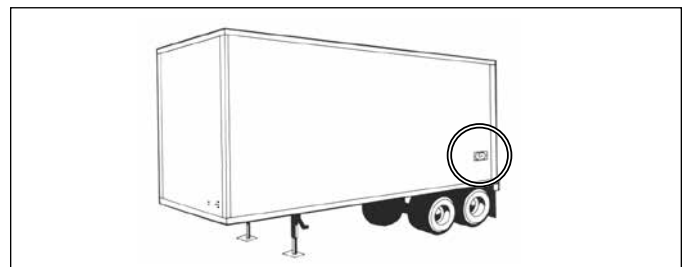
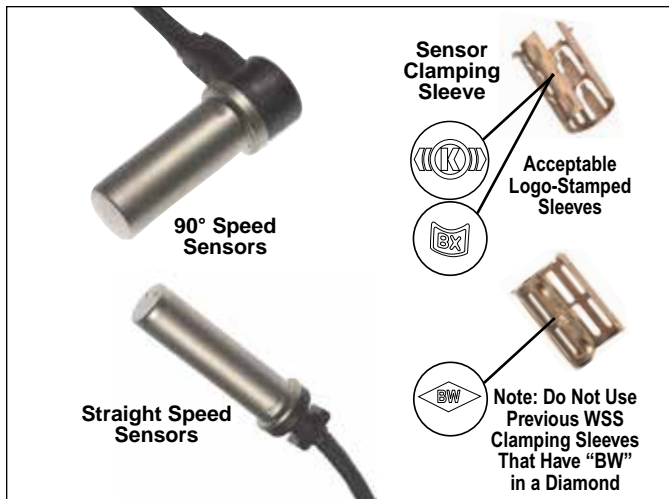

FIGURE 4 - TRAILER-MOUNTED ABS INDICATOR LAMP
FIGURE 6 - BENDIX® WS-24™ WHEEL SPEED SENSORS
- **Trailer ABS Indicator Lamp:** Controlled by the ECU to show the ABS status, the trailer ABS indicator lamp illuminates when a Diagnostic Trouble Code (DTC) is active. See Figure 4. If there are no ABS diagnostic trouble codes present, when ignition power is applied to the ECU, the lamp will illuminate as a bulb check lasting typically two (2), up to six (6) seconds at most.
- **Wheel Speed Sensors (WSS):** Located at selected hubs, wheel speed sensors detect the rotation of individual wheels and send an electrical signal to the ECU proportional to the rotational velocity. See Figure 6.
See *Figure 4*. Wheel speed data is provided to the TABS-6 Advanced MC module by the Bendix® WS-24™ wheel speed sensors. Typically, the WS-24 wheel speed sensor is installed in a mounting block that is welded to the axle housing. The WS-24 wheel speed sensors are protected by a stainless steel sheath. They are designed to be used with beryllium copper clamping sleeves (sometimes referred to as a “retainer bushing”, “friction sleeve”, or “clip”) (See *Figure 6*). The clamping sleeve provides a friction fit between the mounting block bore and the WS-24 sensor.
2. Install the new clamping sleeve fully into the block, with the retaining tabs toward the inside of the vehicle. Please note that Bendix WS-24 wheel speed sensors must use the correct clamping sleeve to avoid problems associated with reduced retention force, such as sensor movement and resulting ABS trouble codes. See *Figure 6*.